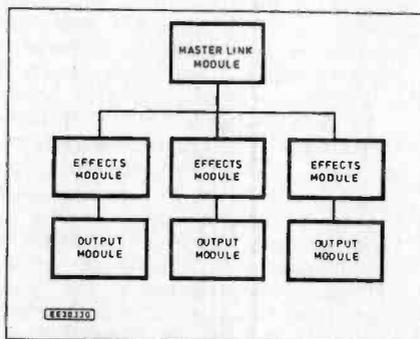

Fig. 1. Using Masterlink to synchronize any number of effects modules.
**T**HIS MODULE is the first of the system control modules, which do not, in themselves, provide an output pattern to control a lighting display. The purpose of this module is to synchronise any of the other modules within the system, which have been switched to Masterlink control, so all of the modules so selected are driven in synchronism, see Fig. 1.